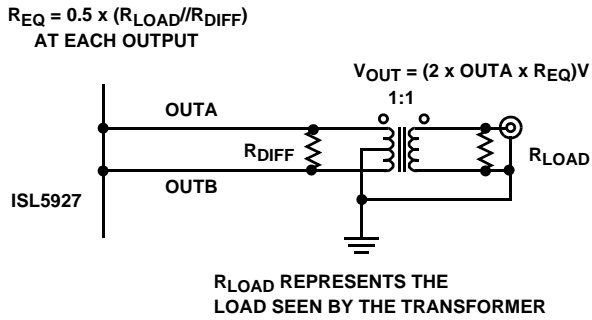
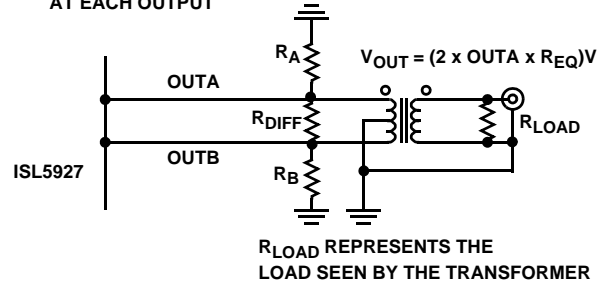

FIGURE 13. OUTPUT LOADING FOR DATASHEET MEASUREMENTS
FIGURE 14. ALTERNATIVE OUTPUT LOADING
**Typical Performance** (+3.3V Supply, Using Figure 13 with  $R_{DIFF} = 100\Omega$  and  $R_{LOAD} = 50\Omega$ )
**Typical Performance** (+3.3V Supply, Using Figure 13 with  $R_{DIFF} = 100\Omega$  and  $R_{LOAD} = 50\Omega$ ) (Continued)
IOUTA and IOUTB can be used in a differential-to-single-ended arrangement to achieve better harmonic rejection. With RDIFF = 50Ω and RLOAD = 50Ω, the circuit in Figure 13 will provide a 500mV (-2.5dBm) signal at the output of the transformer if the full scale output current of the DAC is set to 20mA (used for the electrical specifications table). Values of RDIFF = 100Ω and RLOAD = 50Ω were used for the typical performance curves to increase the output power and the dynamic range. The center tap in Figure 13 must be grounded.
In the circuit in Figure 14, the user is left with the option to ground or float the center tap. The DC voltage that will exist at either IOUTA or IOUTB if the center tap is floating is IOUTDC × (RA//RB) V because RDIFF is DC shorted by the transformer. If the center tap is grounded, the DC voltage is 0V. Recommended values for the circuit in Figure 14 are RA = RB = 50Ω, RDIFF = 100Ω, assuming RLOAD = 50Ω. The performance of Figure 13 and Figure 14 is basically the same, however leaving the center tap of Figure 14 floating allows the circuit to find a more balanced virtual ground,